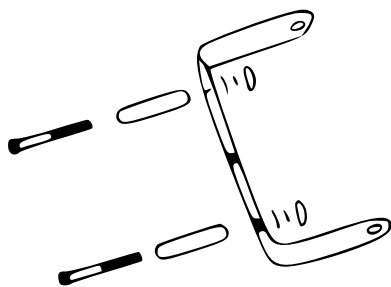

Fig. 1
- The bracket has 2 holes on either side, equipped with corresponding M8 screws (all three holes can be equipped with screws). Each screw must have a spring washer or simple washer (see Fig. 1). Refer to Fig. to know the positions of the three holes (dimensions of bracket). You might also consider buying an additional bracket to extend the range of the reel during use.